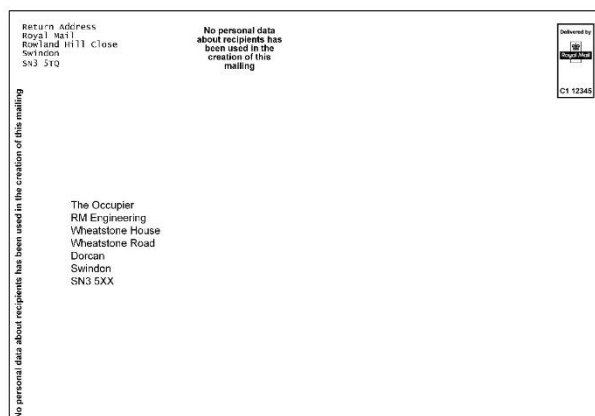

Figure 38: For postcards only, the Declaration location can be placed in either of the positions shown
- d. or, in the case of postcards, the Declaration may, as an alternative to Figure 36 and Figure 37 above, be printed linear format, in any readable font, on the vertical left edge of the Mailing Items. Figure 38 below illustrates the two alternatives for the position of the Declaration for postcards: